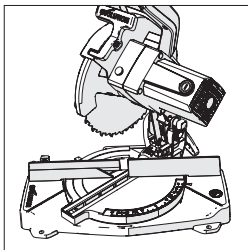

**Fig. 18**
- Press the lower guard locking lever to release the cutting head (**Fig. 18**).